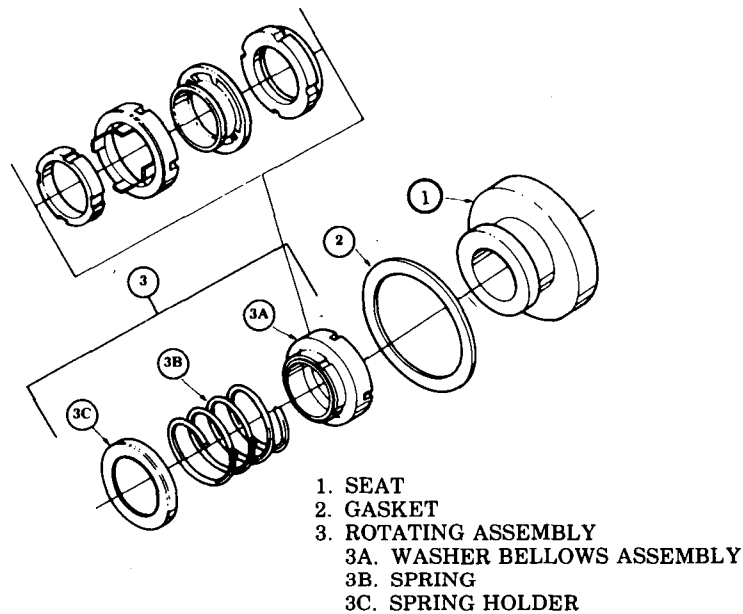
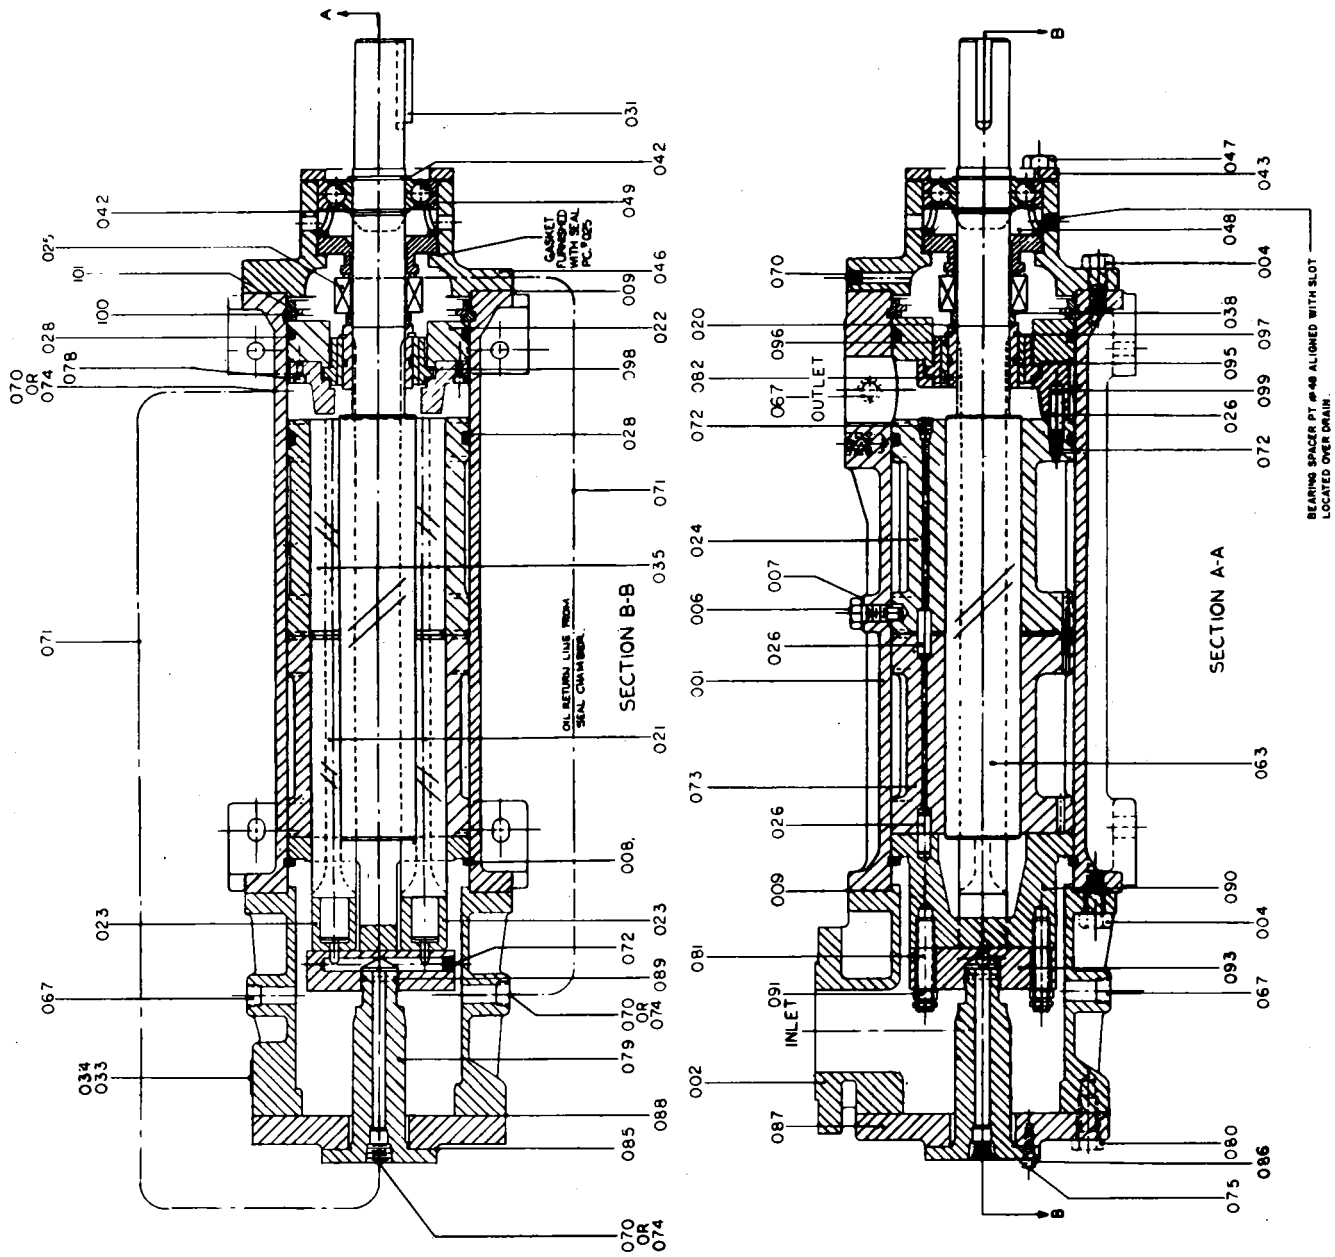
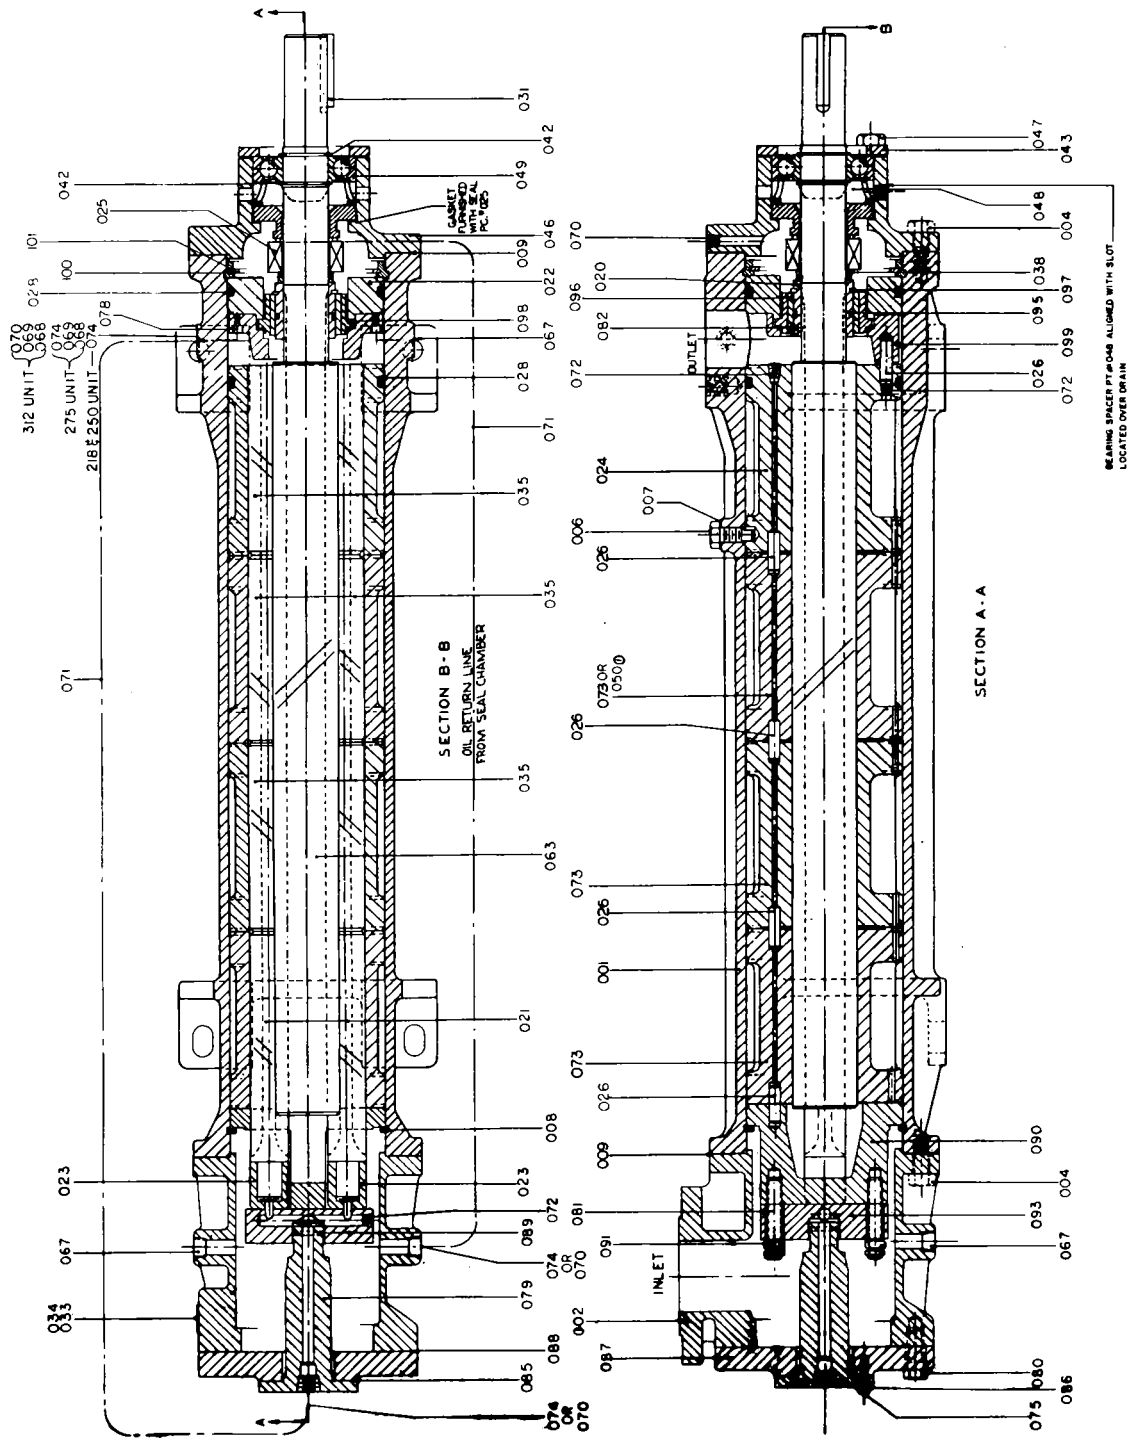

FIGURE 2. Crane Type 21 Mechanical Seal – Clamped Seat
FIGURE 5.
FIGURE 6.
Mechanical seals installed in Series T6D and T12D pumps are Crane Type 21 (Figure 2). Disassembly and assembly procedures for mechanical seal is as follows:
(Figure 2) Slide stationary Assembly, seat (1) and gasket (2) off power rotor shaft.
(Figure 2) Slide rotating assembly (3) off power rotor.
(Figure 2) Slide rotating assembly (3) on power rotor shaft next to sleeve (038).
(Figure 2) Slide mechanical seal seat (1) on power rotor shaft next to rotating assembly (3). Gasket (2) is to be installed in seal bore of cover (046).
- STEP 9. Remove bolts (047) and bearing retainer (043). Remove assembled power rotor (063) will include removal of truarc rings (042), ball bearing (049), spacer (048), mechanical seal (025), sleeve (038), spiral ring (097), sleve (096), O-ring (095) and spring pin (082).
- STEP 10. Remove gasket furnished with mechanical seal (025) from bore of inboard cover (046).
- STEP 11. Disassemble power rotor (063) as follows:
- a. Remove outer truarc ring (042) from groove of power rotor (063).
- b. Press ball bearing (049) off power rotor (063) shaft.
- c. Remove inner truarc ring (042) from groove of power rotor (063). Remove spacer (048) from power rotor (063) shaft.
- d. Remove mechanical seal seat and rotating assembly. NOTE: Refer to Mechanical Seals, page 2, and Figures 2 for proper disassembly procedures.
- e. Remove sleeve (038) from power rotor (063) shaft.
- f. Remove spiral ring (097) from groove of piston (020). Remove sleeve (096). Remove O-ring (095) from groove of piston (020). NOTE: Piston (020) furnished as part of power rotor (063) and is not serviced separately.
STEP 12. Remove bolts (004), inboard cover (046) and gasket (009) from case (001).
STEP 13. Remove retainer (100) and retaining ring (101) from pump case (001).
STEP 14. Remove balance piston housing (022) with O-ring (028), balance piston bushing (098) and idler stop (099). Remove idler stop (099) from balance piston housing (022) by removing capscrews (078). Remove balance piston bushing (098) from balance piston housing (022). Remove O-ring (028) from groove of balance piston housing (022).
STEP 15. Remove tube (026) from either idler stop (099) or housing (024).
STEP 16. Remove stop pin (006) with Dyna seal (007) from case (001).
STEP 17. Remove housings (073 and/or 050 and 024) with tube(s) (026) from inlet end of pump case (001). NOTE: Series T6D pumps are equipped with two (2) housings, Figure 5; Series T12D pumps are equipped with four (4) housings, Figure 6.
NOTE: Prior to assembly of pump, all parts should be cleaned and inspected for nicks and burrs. Replace all worn or damaged parts. The IMO Pump Division recommends automatic replacement of O-rings (028, 089 and 095), gaskets (009, 085 and 088), Dyna seal (007), mechanical seal (025) and ball bearing (049) when these parts are disturbed from their previously installed position. Refer to pump assembly drawings, Figures 5 and 6; mechanical seal drawings, Figure 2; and List of Material, Table 3, during assembly. Coat all parts with light lubricating oil to assist in assembly. Assembly procedures for Figures 5 and 6 are identical.
STEP 1. Install O-ring (028) in groove of housing (024). Install tubes (026) in housing (024). Install housing (024) in pump case (001), ensuring that housing is properly aligned with bore for stop pin (006) in case (001). Install stop pin (006) with Dyna seal (007) in case (001).
STEP 2. Install tube(s) (026) in housing(s) (073 or 050) and install housing(s) (073 or 050) in case (001), ensuring that tubes (026) engage bores of adjoining housing(s). NOTE: Series T6D pumps are equipped with two (2) housings (024 and 073, Figure 5) and three tubes (026, Figure 5); Series T12D pumps are equipped with four (4) housings (024 and 073 or 050, Figure 6) and five tubes (026, Figure 6).
STEP 3. Install balance piston bushing (098) on balance piston housing (022). Install idler stop (099) on balance piston housing (022) using capscrews (078). Torque capscrews (078) to proper value listed in Table 2. Install O-ring (028) in groove of balance piston housing (022).
STEP 4. Install assembled balance piston housing (022) in pump case (001), ensuring that bore of idler stop (099) engages tube (026) installed in housing (024).
- STEP 5. Install retainer (100) and retaining ring (101) in groove of pump case (001).
- STEP 6. Install gasket (009) and inboard cover (046) on flange of pump case (001) using bolts (004). Torque bolts (004) to proper value listed in Table 2.
- STEP 7. Assemble power rotor (063) as follows:
- a. Install O-ring (095) in groove of piston (020). Install sleeve (096) on piston (020), ensuring that spring pin (082) in piston (020) engages slot in sleeve (096). Install spiral ring (097) in groove of piston (020).
- b. Install sleeve (038) on power rotor (063) shaft next to piston (020).